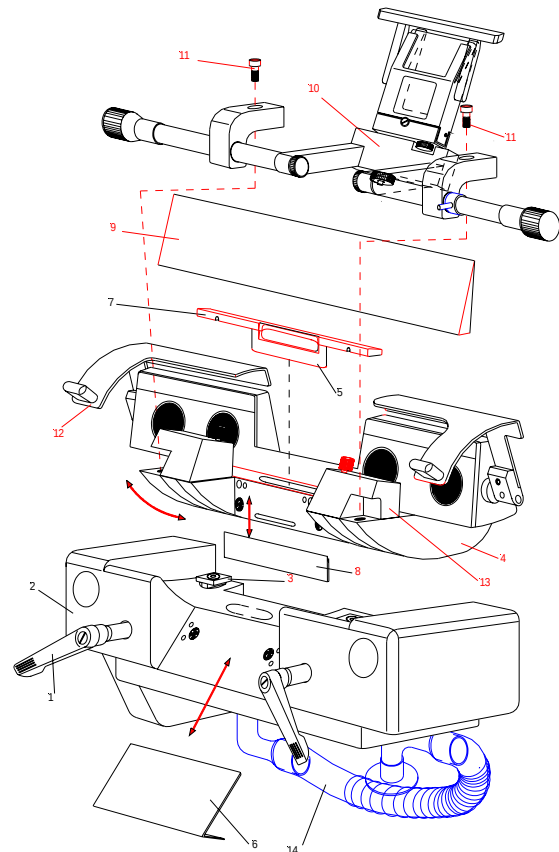
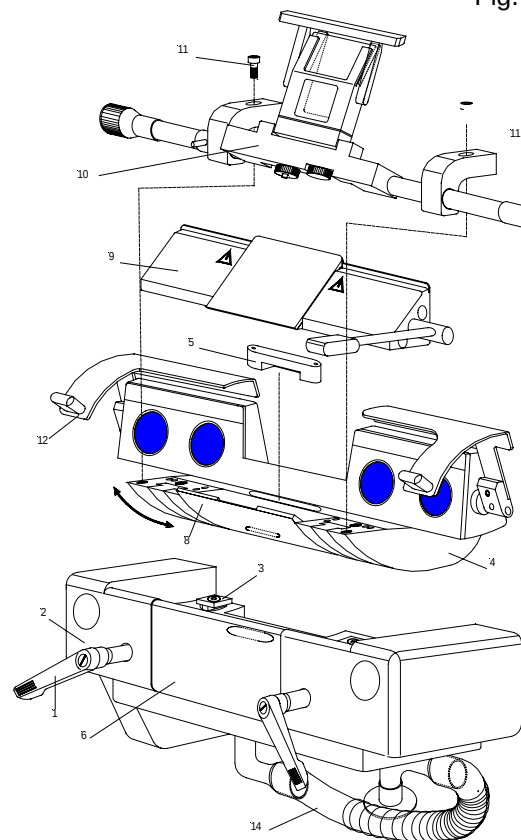

Fig. 63a
Fig. 63b
- Unscrew the anti-roll guide (fig. 63a.10).
- Push the large (fig. 63a.6) and the small (fig. 63a.8) magnetic cover sheets to the side and remove them.
- Remove the wedge rail A (fig. 63a.7) and the height adjustments (fig. 63a.13).
Carefully keep the large and small cover sheets (fig. 63a.6 and 63a.8), the wedge rail A (fig. 63a.7) as well as the height adjustments (fig. 63a.13). These parts will be needed again when modifying from disposable blade holder SE to standard knife carrier SM.
- Fasten the anti-roll guide (fig. 63b.10) for the disposable blade holder SE to the intended fastenings (fig. 63b.11).
- Insert the filling pieces for suctioning (fig. 63b.6 and fig. 63b.8) into the intended position.
- Unscrew the stopper (fig. 63b.5) from the wedge rail (fig. 63a.7).
- Slightly lubricate this stopper (fig. 63b.5) with grease and insert it into the opening.
- Tilt the knife guards (fig. 63b.12) upwards and place the disposable blade holder SE (fig. 63b.9) against the holding surfaces.
Before inserting and clamping the blade into the disposable blade holder SE, left knife guard for the fixation (fig. 63b.12) must be placed over the disposable blade holder SE on the left side. This way, the disposable blade holder SE does not tilt to the right side when clamping the blade.